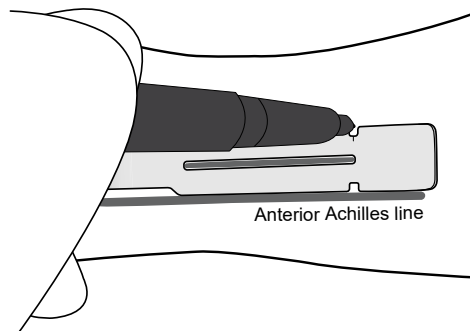

Figure 10. Marking the notches in the pocket dissector handle
8. Make a mark on the skin at each of the notches on the outside of the pocket dissector handle (Figure 10).